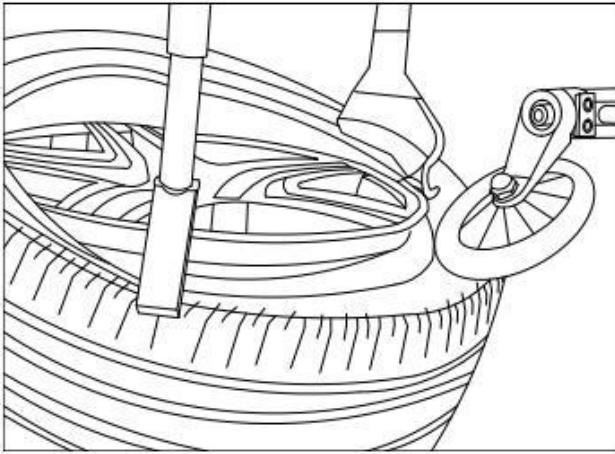

Figure 8
- Press the rim into the rim groove with the placenta cutting and the tire press head. Press the pedal (M) to turn the dial clockwise and the tire press head to follow until the rim is completely inside the rim. Lift the tire press head and complete the tire installation. (Figure 8)